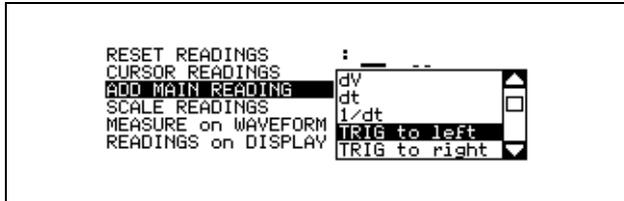

Figure 6-1 Cursor Measurements Window
2. From the second screen page of the More Scope window, highlight ADD MAIN READING. Press to open the list box. The ADD MAIN READING list box allows you to choose which cursor measurement reading to display. A list of possible measurements is shown in Figure 6-1.